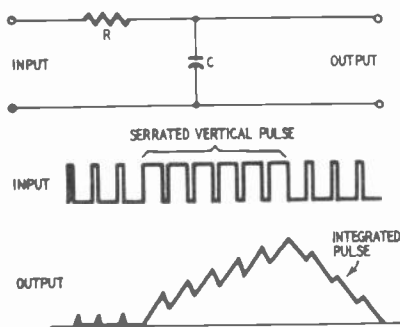

Fig. 5-I. Integrator circuit showing input and output waveforms.
**SERVICE:** To get best interlacing, adjust brightness control until retrace lines can be seen. Turn vertical-hold control until the retrace lines are equally spaced. This usually happens with the vertical-hold control set close to the point where the pix breaks out of vertical sync and starts rolling upward. If this adjustment of the vertical-hold control does not eliminate pairing of retrace lines (that is, if all the retrace lines cannot be spaced evenly) then there may be trouble in the integrator network (input to the vertical oscillator). Defective capacitors in the integrating network are the most common cause. The action of a simple integrating network is shown in Fig. 5-I.